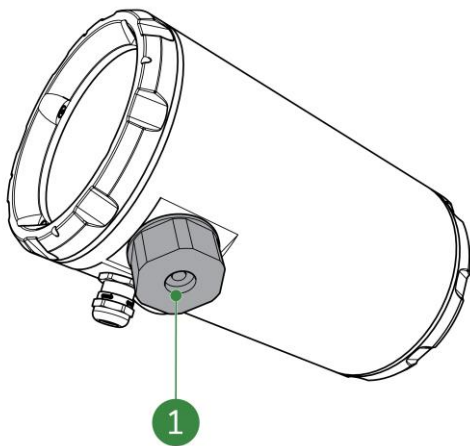

Figure 5-18: Split cable gland
3. Remove the split cable gland for ethernet cable (Figure 5-18, pos. 1) from the SDM ECO transmitter by unscrewing it.
11. Tighten the split cable gland (Figure 5-18, pos. 1) to prevent moisture and dirt entering the SDM ECO.